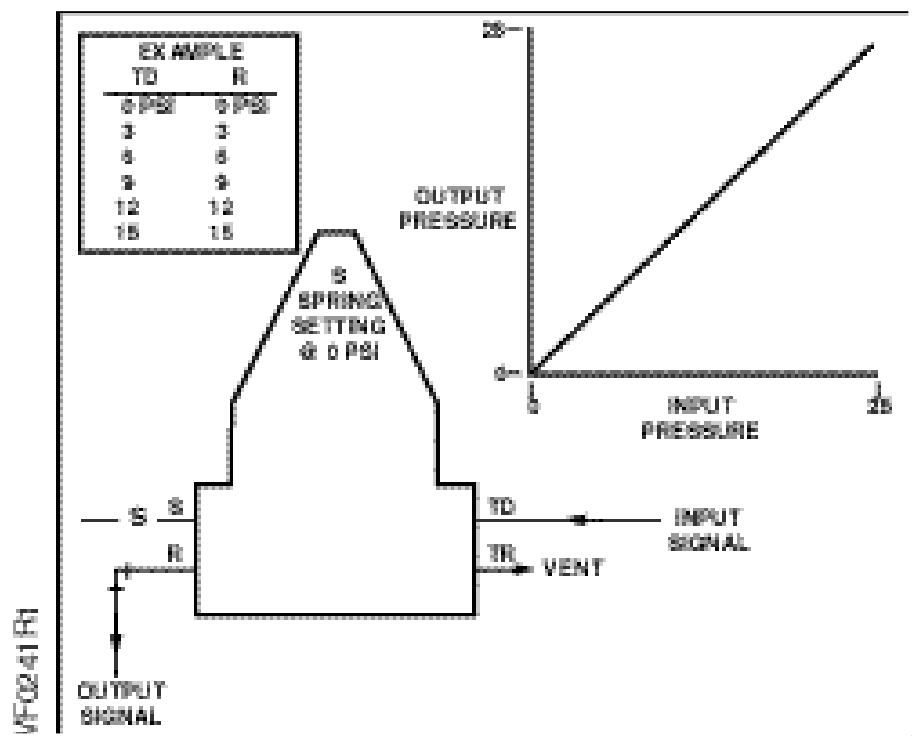

Figure 2. Direct Acting (DA) Amplifying Relay.
The Powers RL 243 MP Multi-Purpose Relay is a pneumatic auxiliary device designed to provide a variety of pneumatic control functions for the typical control system. Applications include direct and reverse acting amplifying, signal advancing, minimum pressure relay, and lower pressure transfer. (See Figures 2 through 10.)
- Direct acting amplifying (See Figure 2).
Output pressure will vary directly with input pressure. Relay is fail-safe and cannot generate an output signal unless a source of air is available at S-port (Figure 2).